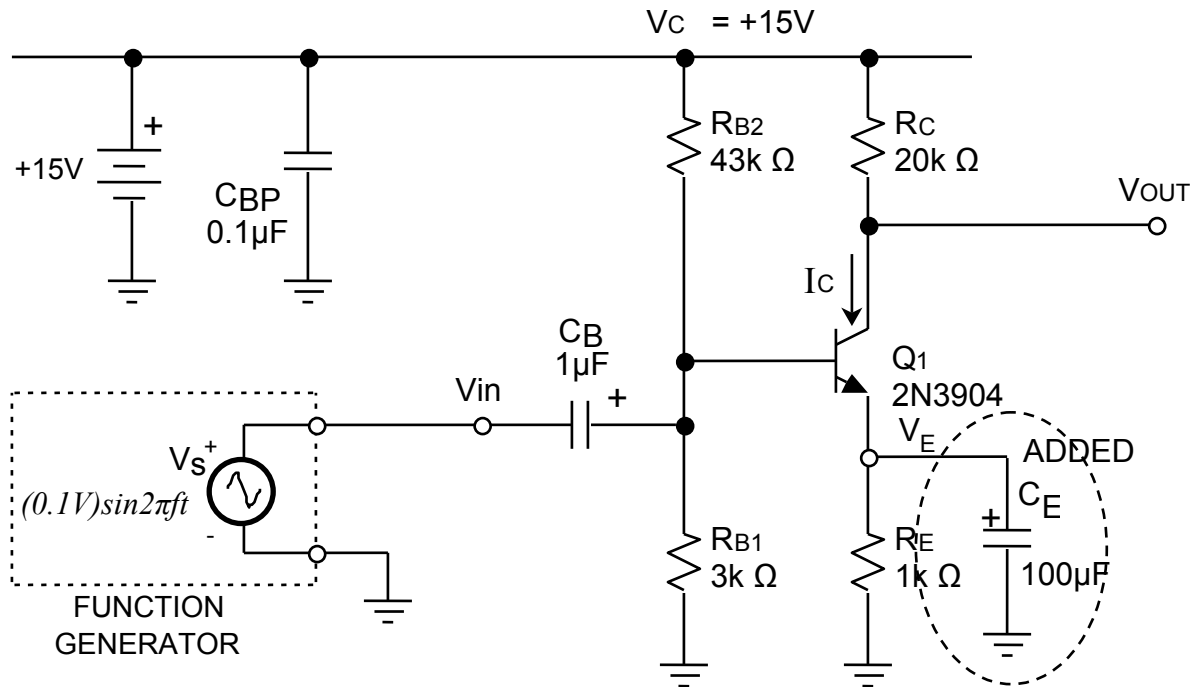

Figure 6-4.
- P6. Simulate the circuit of Figure 6-4 and provide a plot of the output signal showing any distortion or clipping.
L19. Add a $100\mu\text{F}$ capacitor in parallel with R_E as shown in Figure 6-4. Be sure to observe correct polarity! You should see the output waveform amplitude increase significantly, due to the increase in signal gain (WHY?). The output amplitude should exceed the linear range of the amplifier, causing the output “sine wave” to be severely distorted (“clipped”). Measure the maximum and minimum voltage levels at the output, and (in your writeup) identify the transistor operating regions corresponding to each limit.
W7. When the $100\mu\text{F}$ capacitor was added in parallel with R_E (as shown in Figure 6-4, how did circuit operation change? Describe qualitatively and quantitatively.